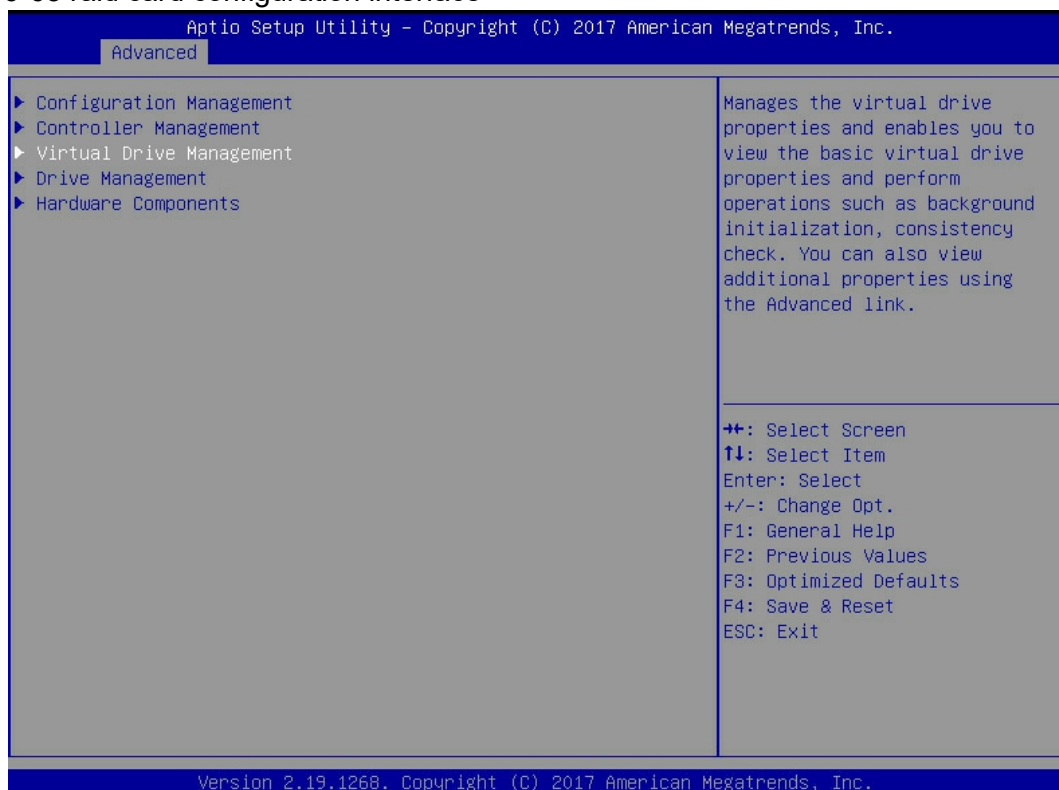

Figure 6-65
- a) As shown in figure 6-65, select virtual drive management in the raid card configuration interface and press enter.
✧ Figure 6-65 raid card configuration interface